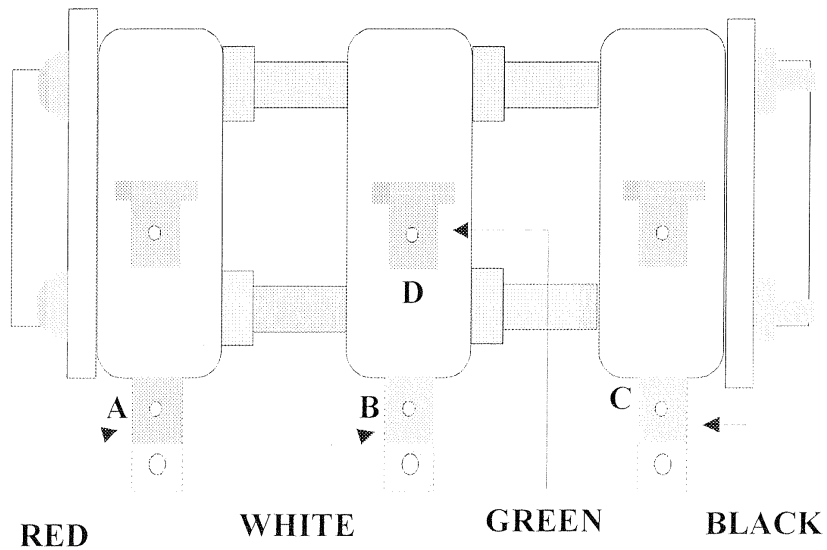

Figure 2
10. Strip 1/4" of the insulation from the 6" **RED** wire. Solder the **RED** wire to Point **A**. Please refer to Figure 2.
11. Strip 1/4" of the insulation from the 6" **WHITE** wire. Solder the **WHITE** wire to Point **B**. Please refer to Figure 2.
12. Strip 1/4" of the insulation from the 6" **BLACK** wire. Solder the **BLACK** wire to Point **C**. Please refer to Figure 2.
13. Strip 1/4" of the insulation from the 6" **GREEN** wire. Solder the **GREEN** wire to Point **D**. Please refer to Figure 2.
14. Bundle the green, white, black and red wires together using the (4) four white nylon cable ties supplied with the kit. Space them evenly along the length of the wires.